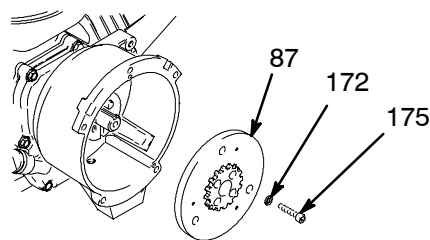

Fig. 7
9. Fig.7. Use an impact wrench or wedge something between armature (87) and clutch housing to hold engine shaft during removal.
10. Remove four screws (175) and lockwashers (172).
11. Remove armature (87).